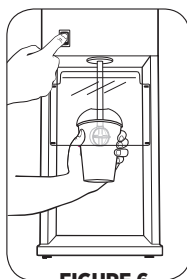

FIGURE 6
- For Mix'n Machine Advance Variable Speed Model:** Press ON/OFF power switch to OFF to stop the machine. See Figure 6.
- For Mix'n Machine Standard Model (Countertop and Wall Mount):** Press ON/OFF power switch to OFF to stop the machine. See Figure 6.